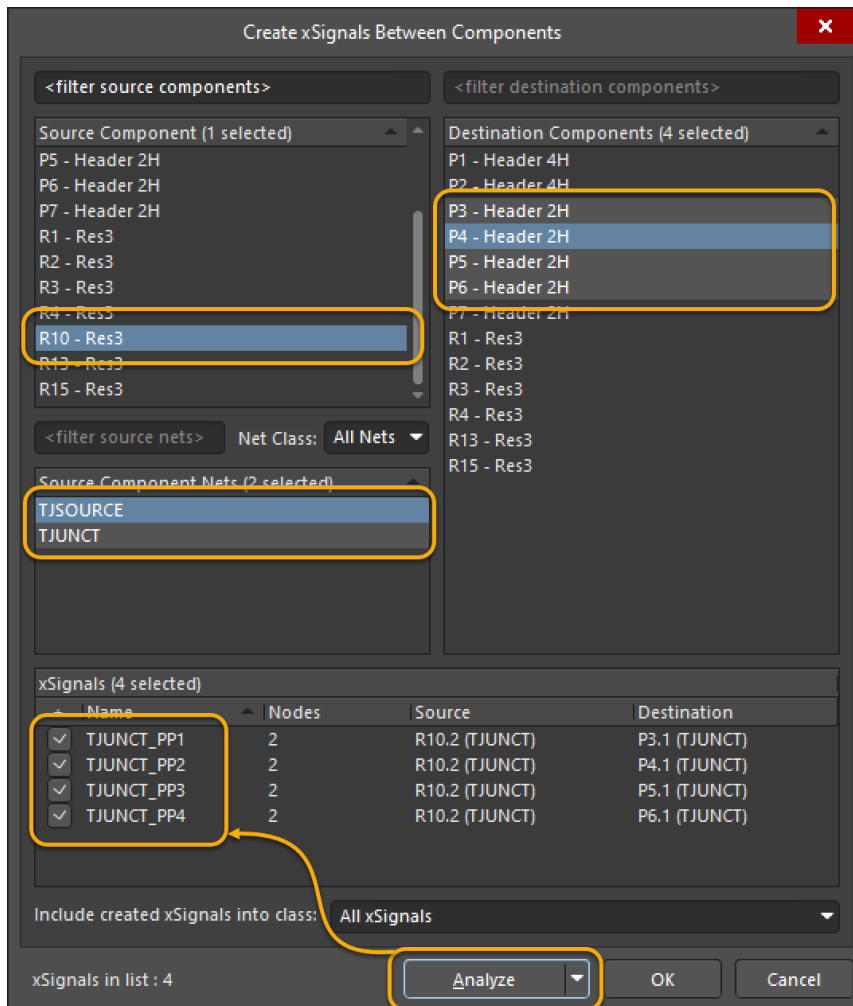

Figure 16. xSignals creation for the net with T-Junctions
37. Using Figure 16 as a reference, in the *Create xSignals Between Components* dialog, we will change the following settings: